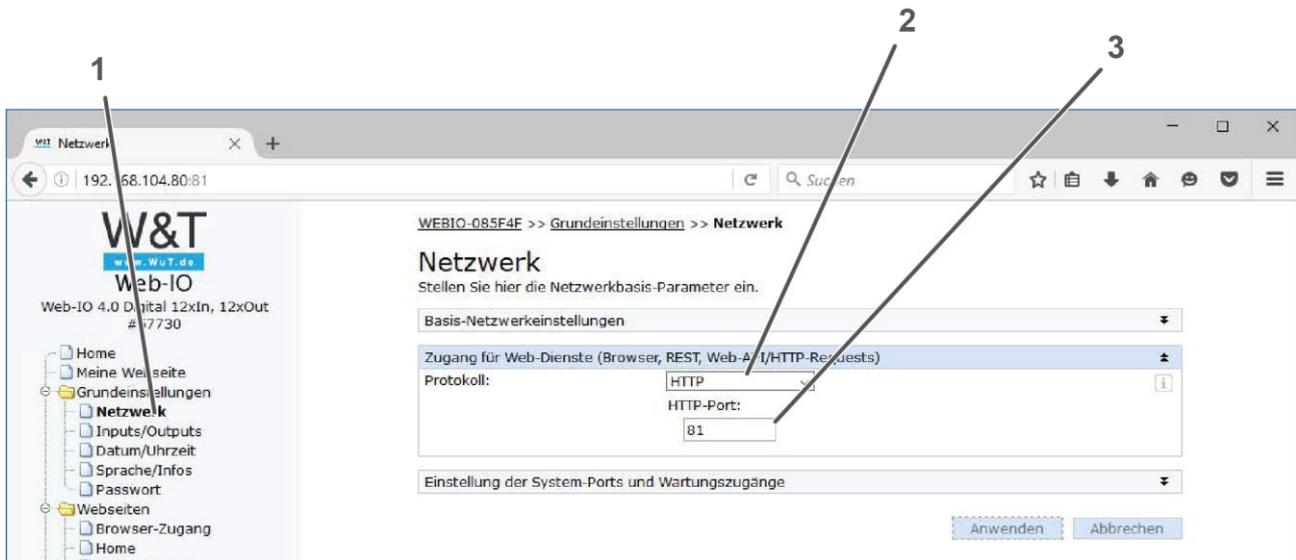

Figure 35: Web IO network settings
2	Input of Http Port (Figure 35, , Page 40).
- Netzwerk select (Figure 35, Page 40, Pos. 1).
- HTTP select as protocol type (Figure 35, Page 40, Pos.2).
- HTTP-Port enter (Figure 35, Page 40, Pos. 3).